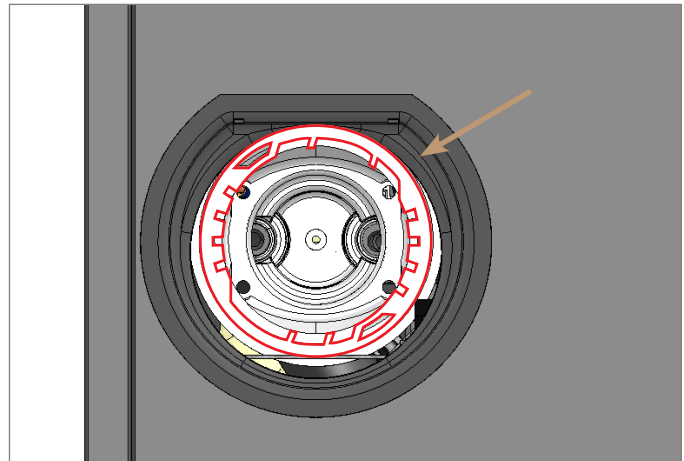

FIG. 1. Teeth inside the filter head.
1. Align the filter with the filter head's teeth inside the machine. See fig. 1.